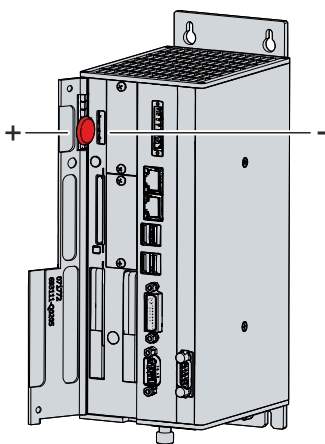

Fig. 25: C6930\_Battery change
2. Insert the new battery into the PC by hand. Pay attention to the correct polarity. The negative pole of the battery must face the voltage socket of the industrial PC (see fig. 25).